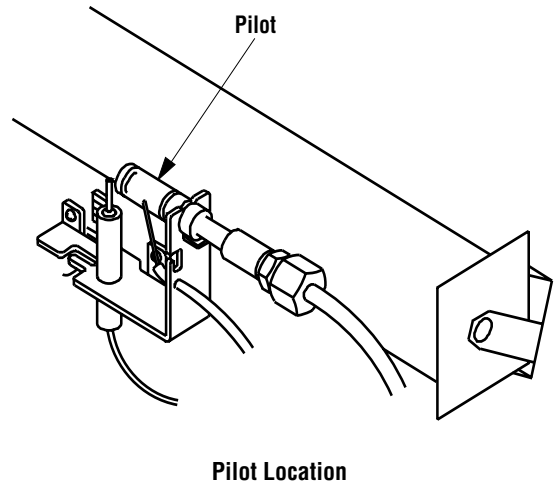

Figure 17
6. The pilot is located on the right side in front of the burner (*Figure 17*).